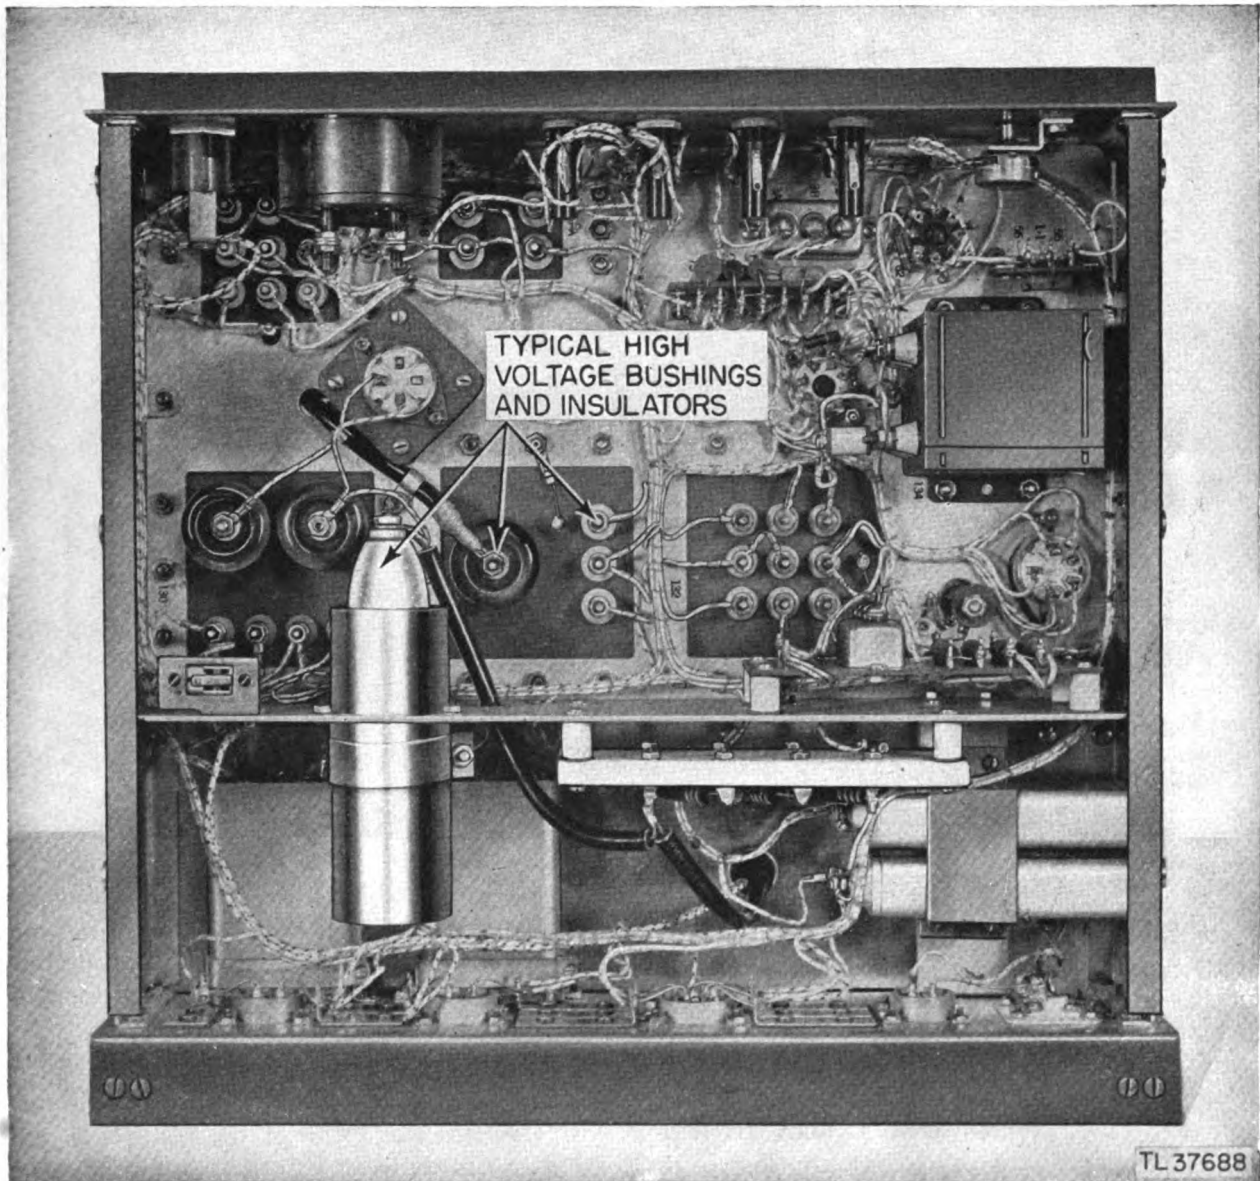

Figure 11. Transmitter—under side showing high-voltage bushings.
**a. GENERAL** (1) Insulator bushings used in the high-voltage circuits of the RC-150 equipment are constructed of ceramic material with a highly glazed surface. Since an insulator is no better than its surface, deposits of foreign substances upon the surface will materially reduce the insulation value of the bushing. It is important, therefore, that bushings used in high-voltage circuits be inspected frequently.
(2) The insulating bushings are used in various ways. One use of bushings is as a support for high-voltage tube sockets; another is as a support for high-voltage leads; and a third is as a support for the voltage terminals of transformers and capacitors (fig. 11).
**b. INSPECT (I).** Inspect the physical condition of the insulator bushings. Each should be clean and without cracks or chips. It is possible for a highly glazed insulator to develop fine hair line surface cracks where moisture and dust accumulate and eventually form a leakage path for a high-voltage flash-over. Consequently, the surface of the bushings must be inspected to detect such cracks.